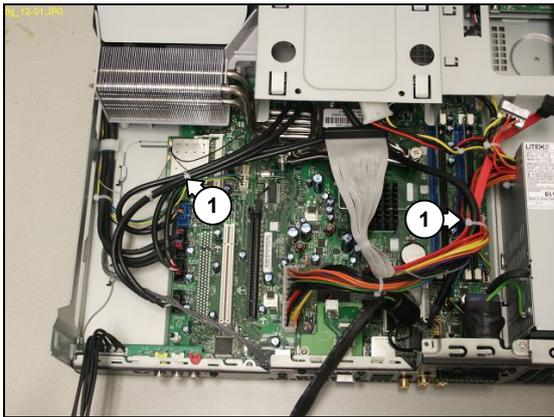

Figure 12.11-1
6. Remove the 2 cable ties (1) to allow some slack in the cables connected to the FP board. See Figure 12.11-1.